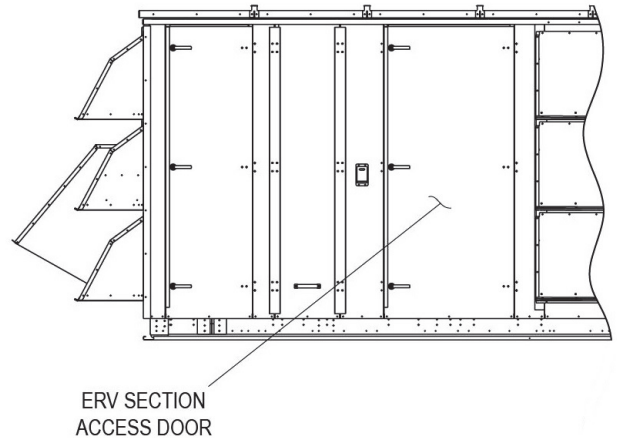

Fig. 39 — ERV Section Access Door
1. Open the access door to the ERV section. See Fig. 39.